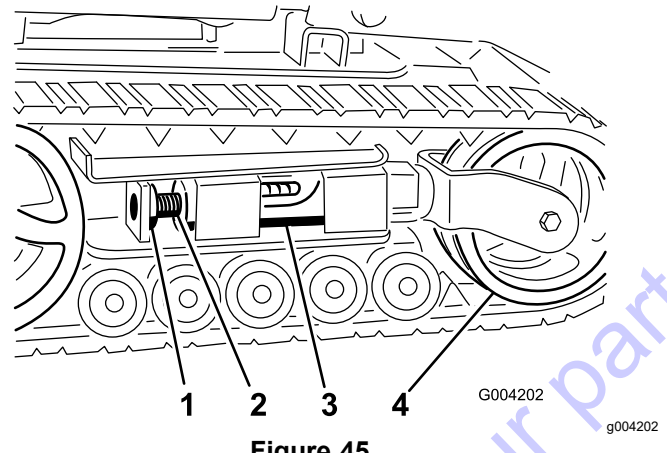
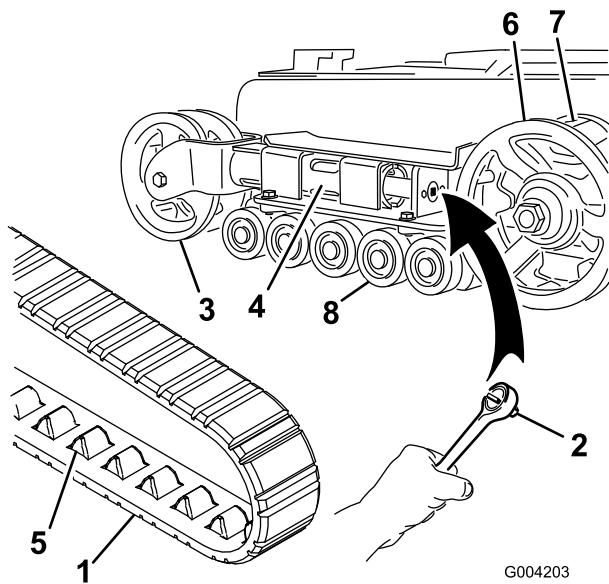
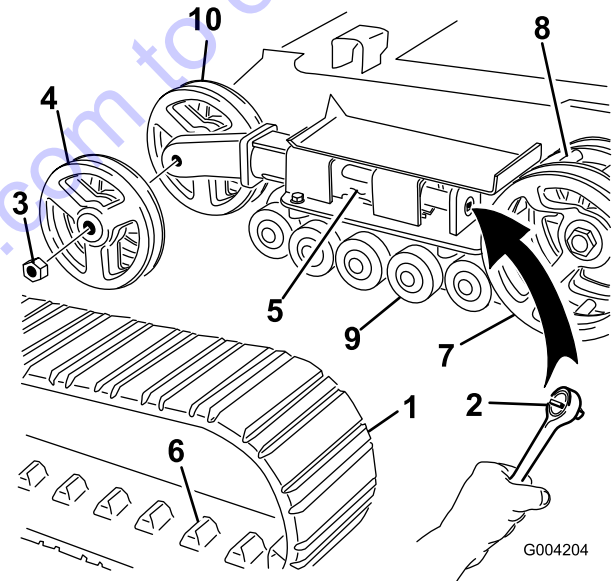

Figure 45
Figure 46
Figure 47
4. Remove the locking bolt and nut (Figure 45).
6. Align the closest notch in the tension screw to the locking bolt hole and secure the screw with the locking bolt and nut (Figure 45).
Note: You have narrow-width tracks if the front tension wheels are mounted inside a fork on the end of the tension tube (Figure 46).
5. Using a 1/2-inch drive ratchet, release the drive tension by turning the tensioning screw clockwise (Figure 45 and Figure 46).
6. Push the tension wheel toward the rear of the unit to move the tension tube against the frame (Figure 46).
8. When the track is off the tension wheel, remove it from the drive sprocket and road wheels (Figure 46).
9. Beginning at the drive sprocket, coil the new track around the sprocket, ensuring that the lugs on the track fit between the cogs on the sprocket (Figure 46).
10. Push the track under and between the road wheels (Figure 46).
Note: You have wide-width tracks if the front tension wheels are mounted on the sides of the end of the tension tube (Figure 47).
5. Using a 1/2-inch drive ratchet, release the drive tension by turning the tensioning screw clockwise (Figure 45 and Figure 47).
6. Push the tension wheel toward the rear of the unit to move the tension tube against the frame (Figure 47).
7. Remove the nut securing the outer tension wheel and remove the wheel (Figure 47).
8. Remove the track (Figure 47).
9. Remove the nut securing the inner tension wheel and remove the wheel (Figure 47).
13. Install the inner tension wheel and secure it with the nut removed previously (Figure 47).
15. Install the new track, ensuring that the lugs in the track fit between the cogs in the middle of the drive sprocket (Figure 47).
16. Install the outer tension wheel and secure it with the nut removed previously (Figure 47).
6. Place the greased road wheel cap over the bolt head (Figure 46).
7. Secure the road wheel cap with the snap ring (Figure 46).